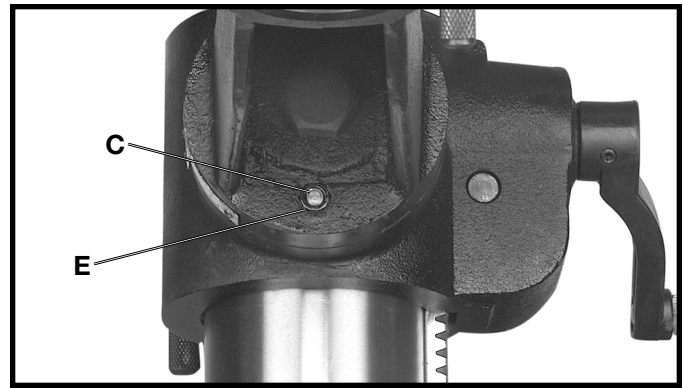

Fig. 24
3. The table can be tilted right or left by pulling out and removing table alignment pin (C) Fig. 24. **NOTE:** If pin (C) is difficult to remove, turn nut (E) clockwise to pull pin out of casting.